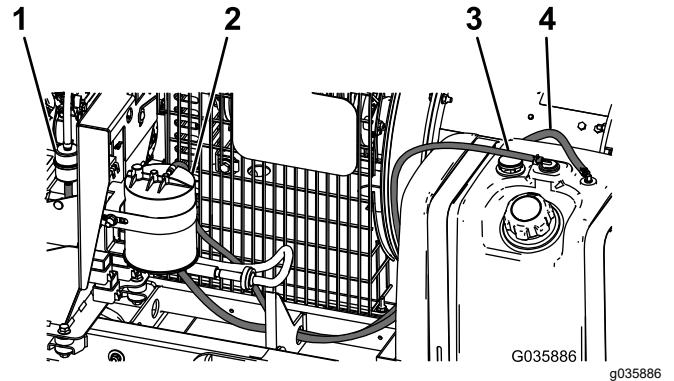

Figure 8
- Attach the 1.6 m (65 inch) hose to the fuel tank and fuel filter using the previously removed hose clamps as shown in Figure 8.
- Attach the 1.5 m (61 inch) hose to the fuel tank and carbon canister using the previously removed hose clamps as shown in Figure 8.